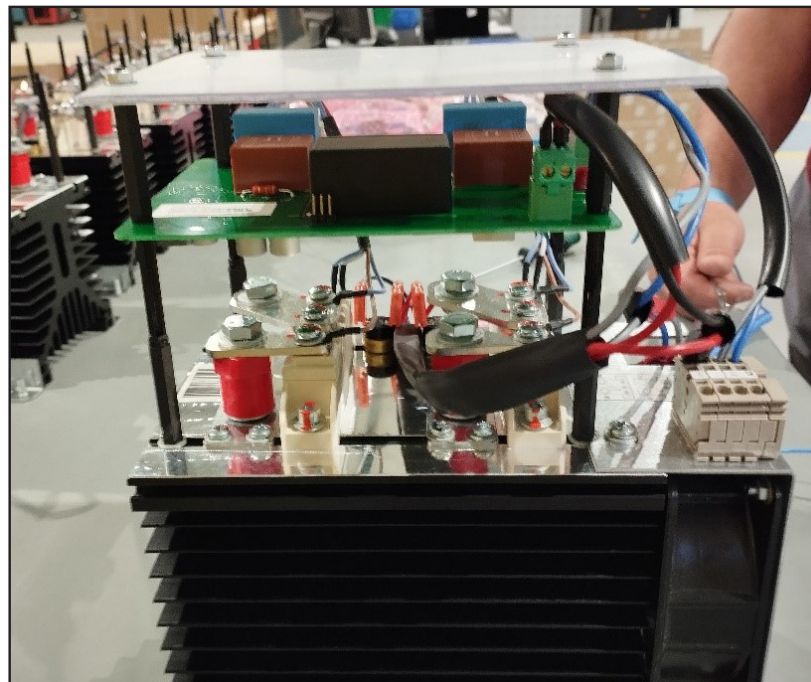

Figure 8: Step 8.
8.- The installation of the **EMB-M-2PH-80-400** control module is now complete, **Figure 8**.